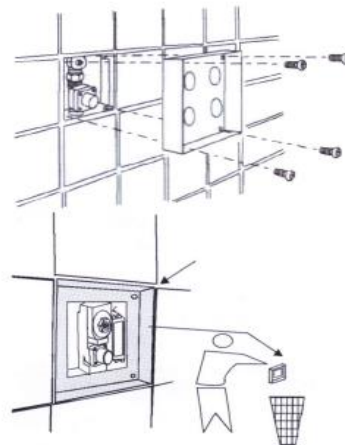

Fig. 1.32: Check interference of leak and grout the gap
**Step 3:** Check connections for leaks during water pressure test. Grout the gap between control box and the wall tiles. Once grout is dry, remove and dispose the protective cover. (Refer Fig. 1.32).